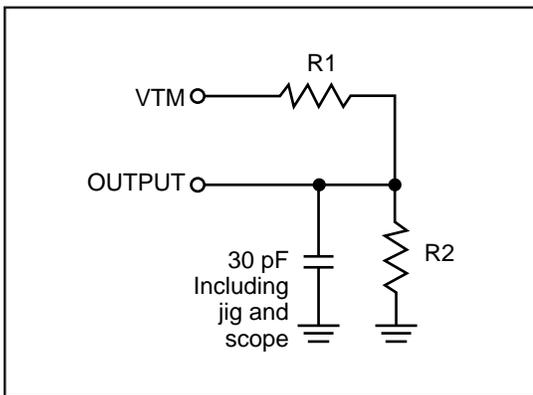

Figure 1
1. Test conditions assume signal transition times of 5 ns or less, timing reference levels of 0.9V, input pulse levels of 0.4 to 1.4V and output loading specified in Figure 1.
- Test conditions assume signal transition times of 5 ns or less, timing reference levels of 0.9V, input pulse levels of 0.4V to 1.4V and output loading specified in Figure 1.